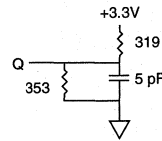

Fig. 2 OUTPUT LOAD EQUIVALENT
- t_{HZCE} and t_{HZWE} are specified with C_L = 5pF as in Fig. 2. Transition is measured ± 200mV from steady state voltage.